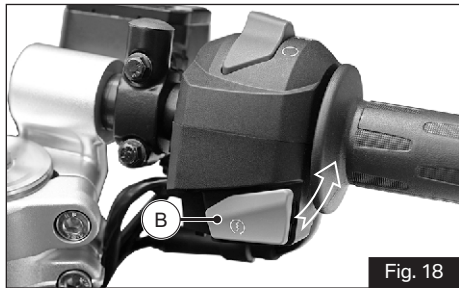

Fig. 18
**B) Switch electric starter (ref. Fig. 18)**